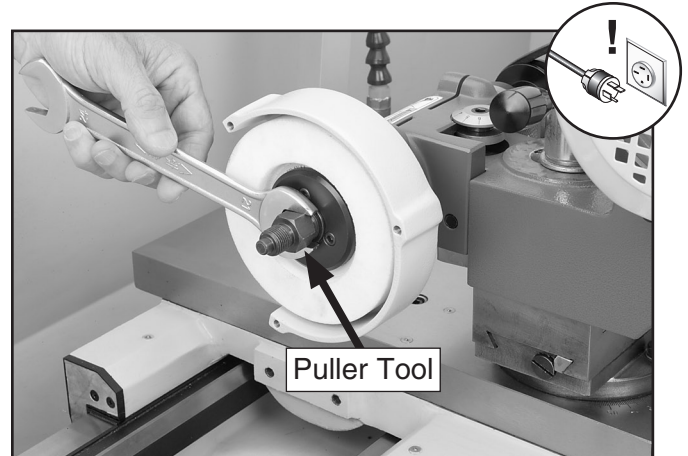

Figure 12. Using the puller tool to release the wheel assembly.
5. While keeping the spindle from rotating, thread the puller tool into the center of the wheel flange assembly, then tighten it until the flange assembly releases from the spindle taper (see **Figure 12**).
6. While keeping the spindle from rotating, thread the puller tool into the center of the internal spindle pulley, then tighten it until the pulley releases from the spindle taper (see **Figure 12**).